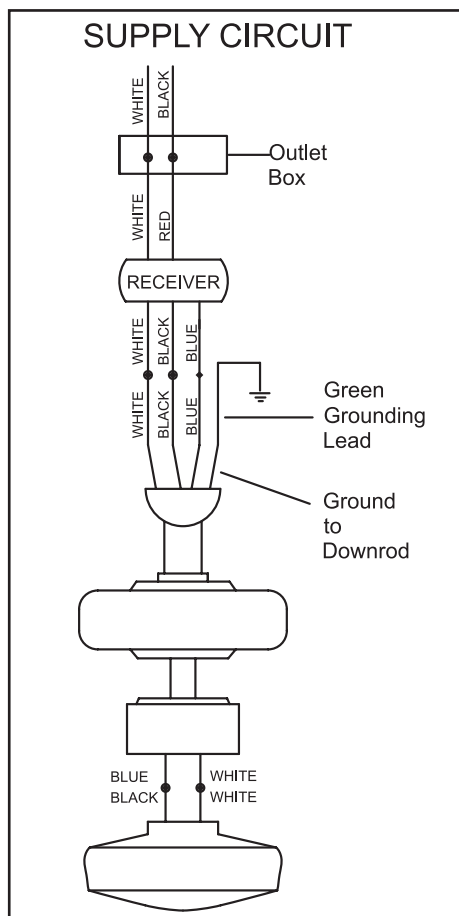

Figure 8
Follow the steps below to connect the fan to your household wiring. Use the wire connecting nuts supplied with your fan and supplied with remote control. Secure the connectors with electrical tape. Make sure there are no loose strands or connections (Figure 8).
1. Connect the ground conductor of the 120v supply (this may be a bare wire or a wire with green colored insulation) to the green ground lead(s) of the fan (Figure 8).
2. Connect the fan motor white wire to the receiver white wire using a wire nut (Figure 8).
3. Connect the fan motor black wire to the receiver black wire using a wire nut (Figure 8).
4. Connect the fan motor blue wire to the receiver blue wire using a wire nut (Figure 8).
5. Connect the receiver red wire to the supply black (hot) wire using a wire nut (Figure 8).
6. Connect the receiver white wire to the supply white wire (neutral) wire using a wire nut (Figure 8).